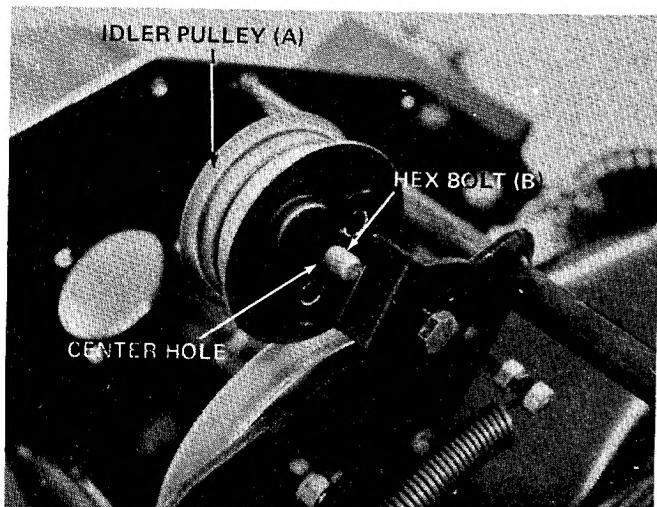

FIGURE 6
- A. Place hex bolt (B) through idler pulley (A) and through center hole on idler bracket. See figure 6.